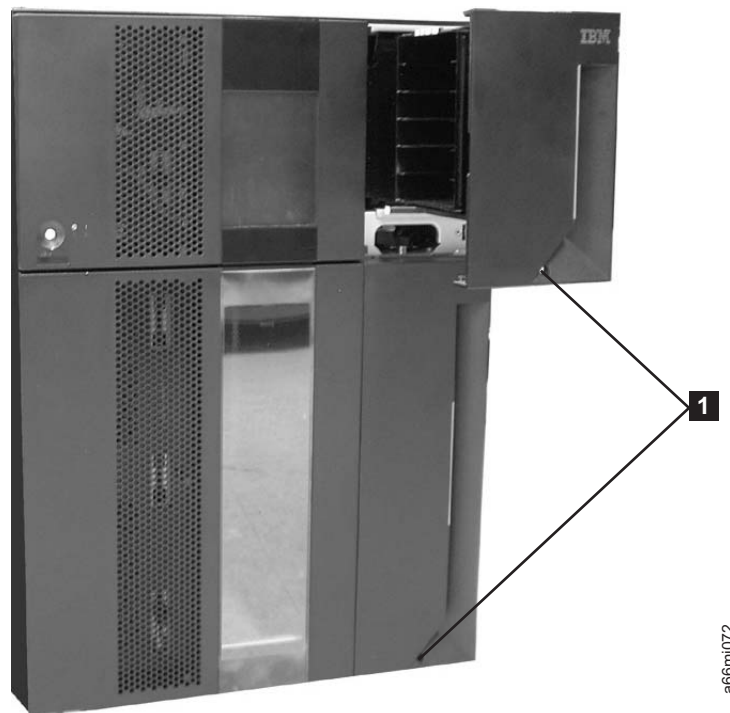

Figure 12-23. Access holes for manually unlocking I/O station doors
There are two styles of I/O station lock mechanism. The early style uses a T10 Torx wrench to rotate the lock mechanism. The new style has a large push-button type mechanism behind the hole (**1** in Figure 12-23) in the I/O station door.
1. Insert a T10 Torx wrench in the hole (**1** in Figure 12-23) on the front of the I/O station door of the library module you want to open.
1. Insert any straight tool (screwdriver, Torx wrench, and so on) into the hole (**1** in Figure 12-23) in the front cover of the I/O station.